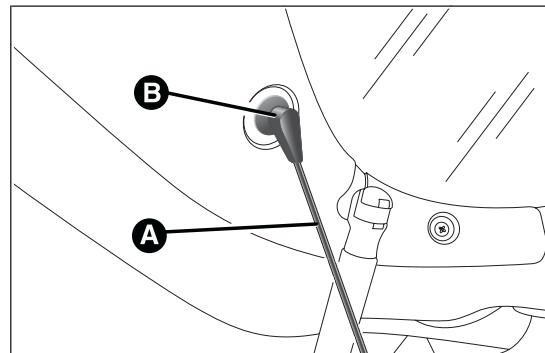

fig. 61
- free the ends of the two parcel shelf mounting links A fig. 61 by removing the eyelets B from the mounting pins;